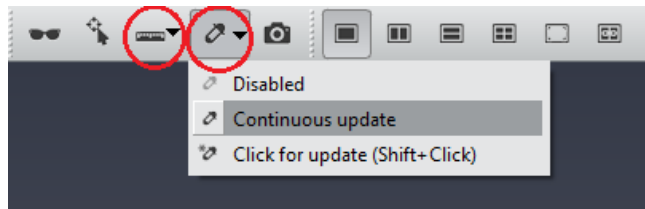

Figure 21.6: Quick Probe or Measure tool can be used to Estimate the Maximum Displacement
- Estimate the maximum displacement in this region. To do so, ensure that the Quick Probe from the Viewer Toolbar is set to *Continuous Update* (Figure 21.6) then place the mouse on the 3D viewer and read the coordinates displayed in the progress bar. Be sure to be on Interact mode (if not, press **ESC**).